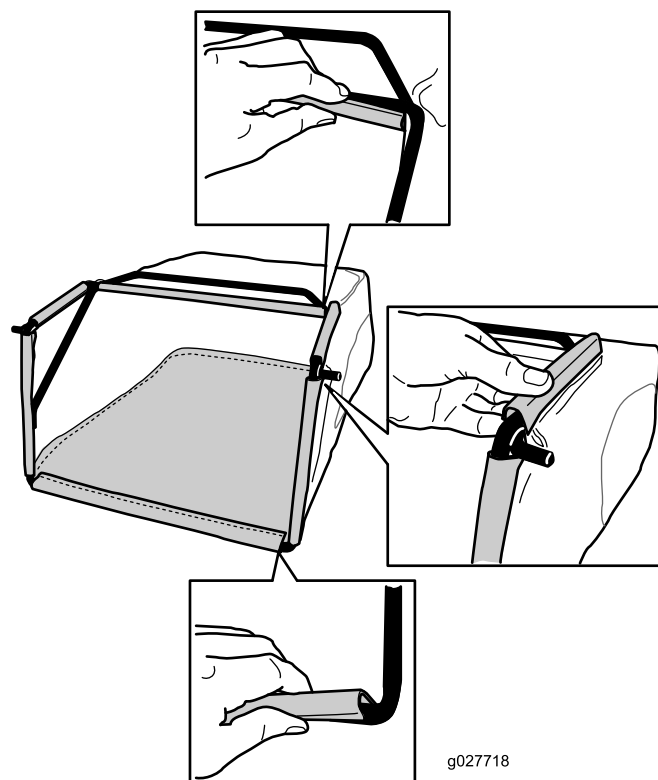

Figure 8
3. Hook the top and side channels of the bag onto the top and sides of the frame, respectively (Figure 8).
2. Hook the bottom channel of the bag onto the bottom of the frame (Figure 8).